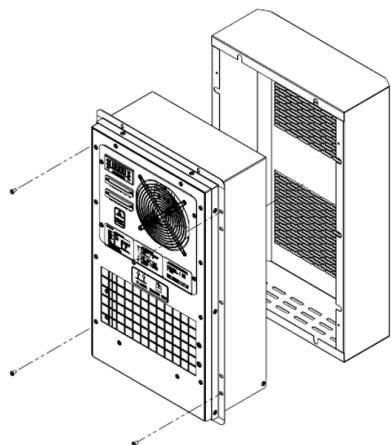

Figure 1
3. Need to remove the cover firstly,if the unit with covers,see Figure1;